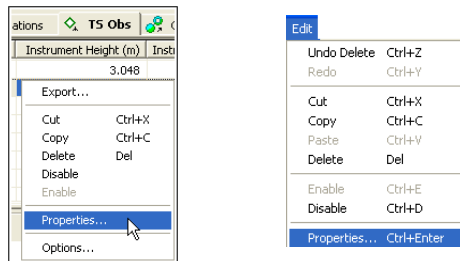

Figure 5-86. Ways to Open Properties
- Right-click the selected occupation(s) and click **Properties** on the pop-up menu, or click **Edit ► Properties** (Figure 5-86).